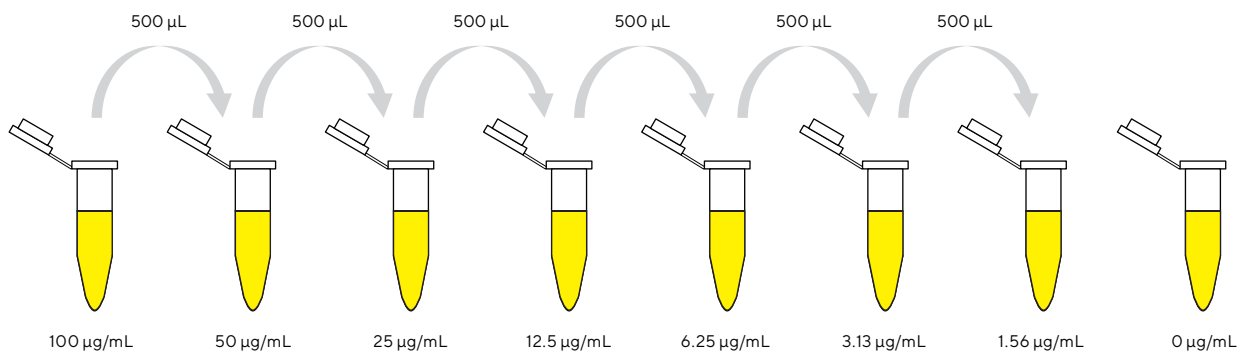

Figure 2: Two-fold serial dilution of the stock reference material.
6.1 When starting with 100 µg/mL for example, pipette 500 µL of sample diluent into eight empty microfuge tubes and perform a two-fold serial dilution of the stock reference material to in sample diluent to obtain a set of concentration between 1.56 and 100 µg/mL as shown in Figure 2.